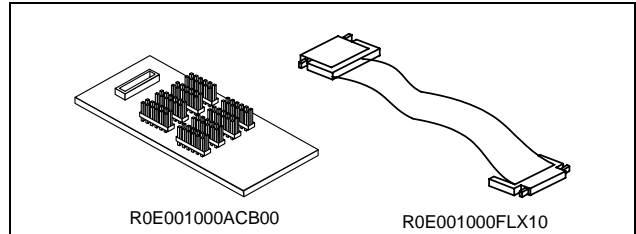

Figure 1 Package components of the R0E001000ACB00
2. Package Components (See Figure 1)